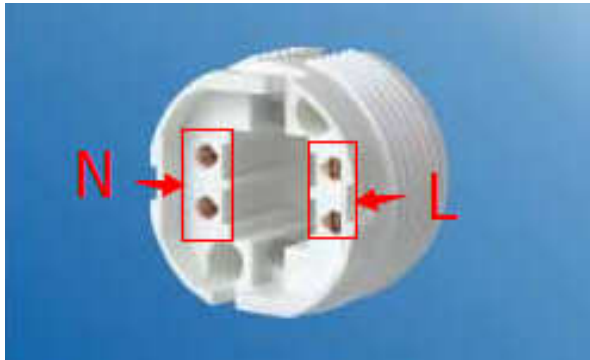
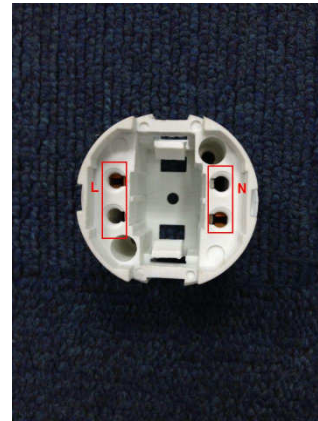
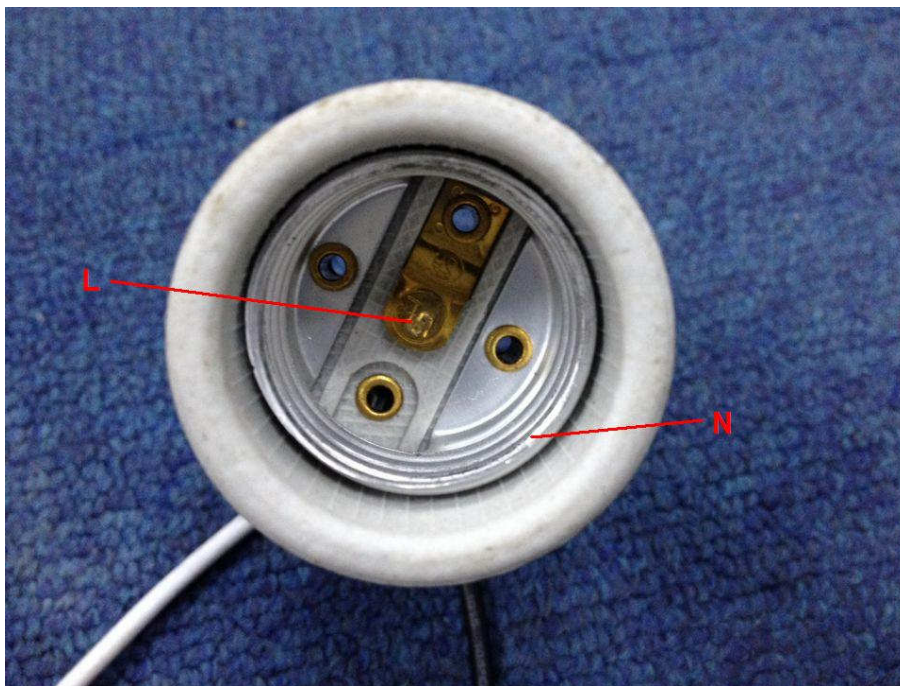

Fig.3
Fig.4
Fig.5
Step 3: Connect the two common wires from the power source directly to the corresponding leads of the socket (Note: L and N wire shouldn't connect the same side of the socket). Fig.3 shows four pins, Fig.4 shows two pins, Fig.5 shows E26 lamp base.